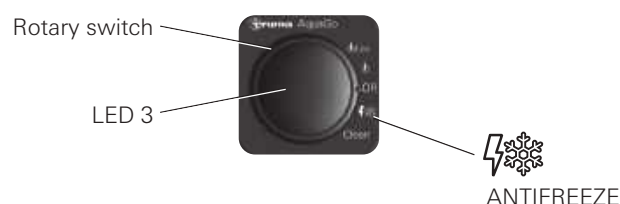

Fig. 8
11. Select operating mode ANTIFREEZE (see Figure 8).
- During operation, the yellow status LED 3 (see Fig. 8 - LED 3) is lit.